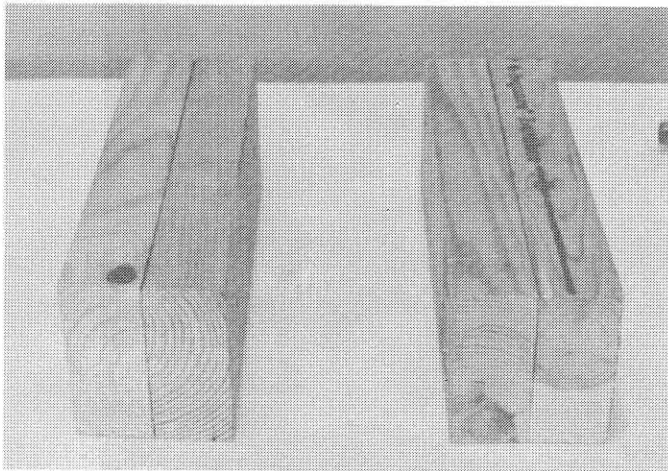

FIG. 17
24. Each TP16 pump is assembled and tested at the factory for a specific rotation. Direction of rotation cannot be reversed without replacing flange plate (1).
26. Obtain two pieces of wood (2 by 4) about 6" to 10" long. Lay them on the workbench parallel to each other and with the 4" dimension vertical to the bench. Position the flange plate on the blocks so that it will have steady support and the drive shaft extension will go between the blocks when the drive gear is installed. (Fig. 17)